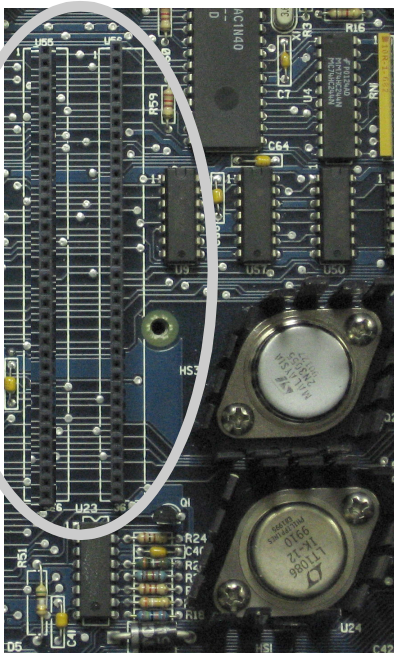

Fig. 2: Empty location "U56" (circled above).
2. Remove any Memory Expansion Boards located in U55 and/or U56 (circled in Fig. 2, below). **Note:** The EPROM (U39) and the on-board SRAM (U61) may be removed or left in place, as desired.